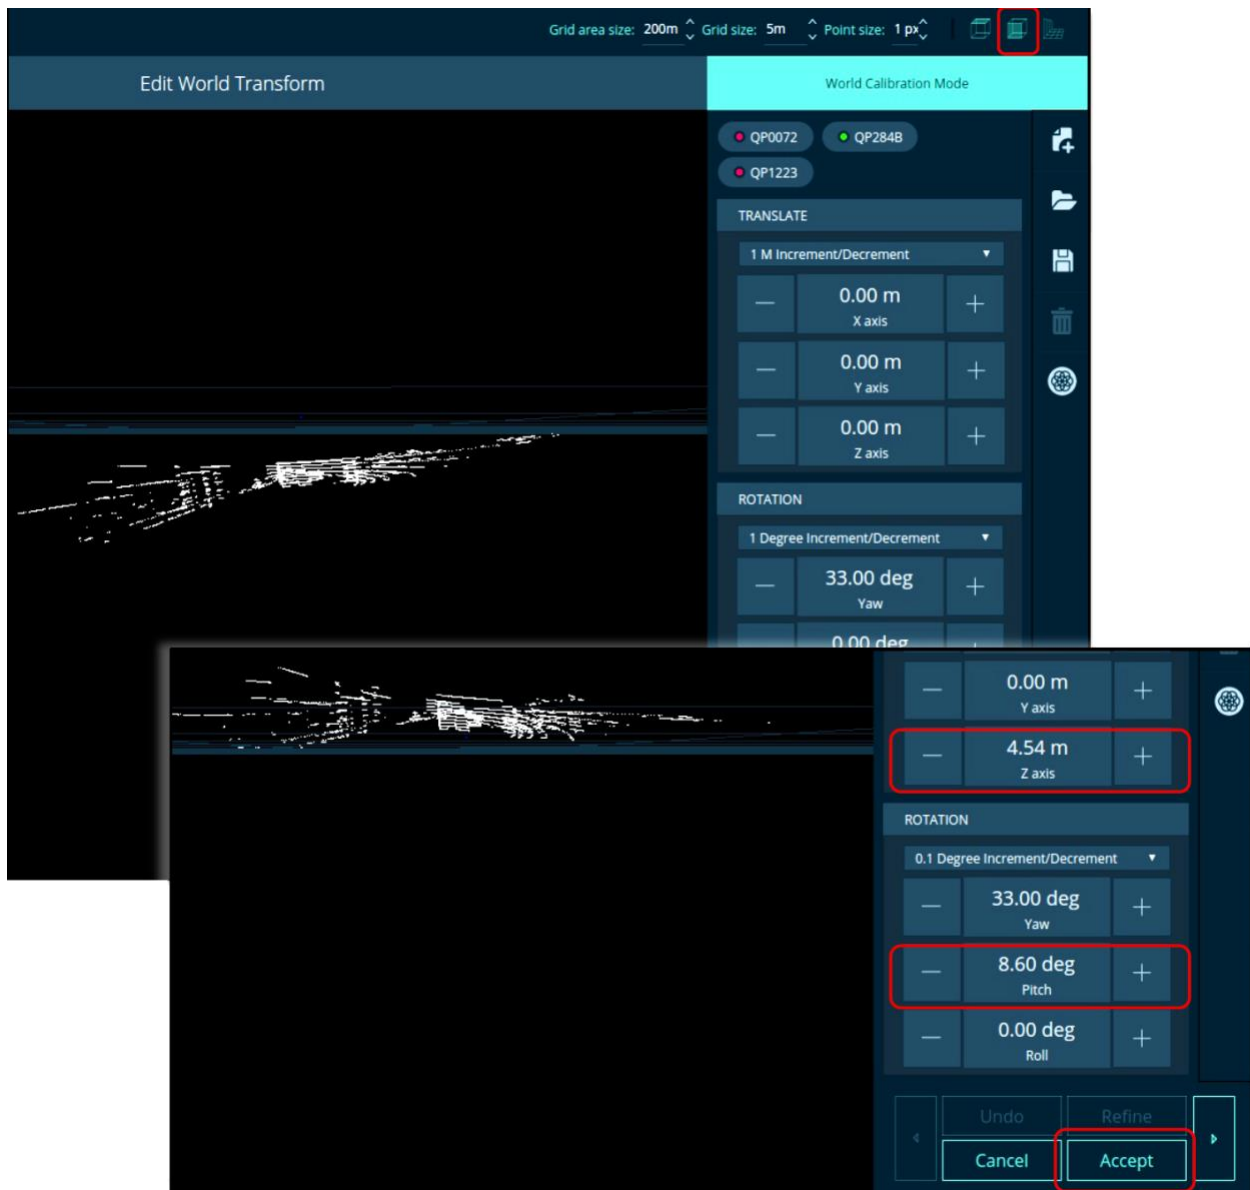

Figure 55. Calibrate Tab: Align Z to Ground Plane, Before (top), After (bottom)
9. Click the **Side View** button to assess the point cloud **Y axis** alignment with respect to the ground plane. See *Figure 55. Calibrate Tab: Align Z to Ground Plane, Before (top), After (bottom)*.
11. Click **Accept** to lock in the results. See Figure 55. Calibrate Tab: Align Z to Ground Plane, Before (top), After (bottom).